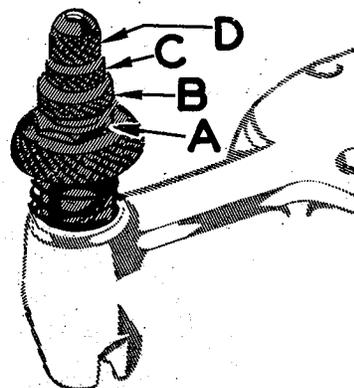

Fig. 3
Sufficient pressure to feed the work uniformly should be maintained. Should it be necessary to increase or decrease amount of pressure on presser foot, loosen lock nut (A, Fig. 3), and turn adjusting screw (B). Adjusting screw has a right hand thread; tightening will increase pressure, loosening decreases the pressure. When pressure adjusting screw (B) has been properly set, tighten the lock nut (A). With presser foot resting on throat plate, position locking nut (C) so that its under surface is approximately  $\frac{1}{32}$  inch to  $\frac{1}{16}$  inch from the top surface of the adjusting screw (B). Set cap (D) against locking nut (C).